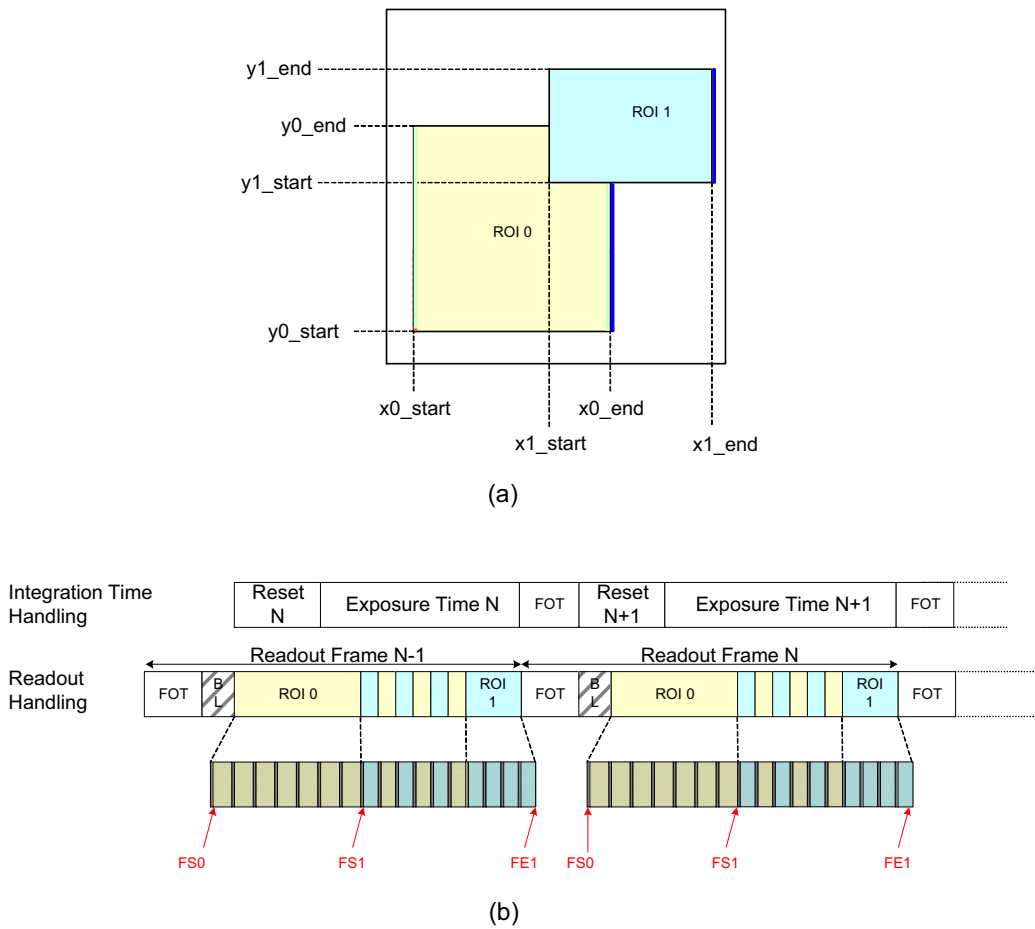

Figure 29. V1–SN/SE: Frame Sync Codes
The frame format is explained by example of the readout of two (overlapping) windows as shown in Figure 29 (a).
Figure 29 indicates that, after the FOT is completed, the sensor reads out a number of black lines for black calibration purposes. After these black lines, the windows are processed. First a number of lines which only includes information of ‘ROI 0’ are sent out, starting at position y0\_start. When the line at position y1\_start is reached, a number of lines containing data of ‘ROI 0’ and ‘ROI 1’ are sent out, until the line position of y0\_end is reached. From there on, only data of ‘ROI 1’ appears on the data output channels until line position y1\_end is reached.
**NOTE:** In Figure 29, only Frame Start and Frame End Sync words are indicated in (b). CRC codes are also omitted from the figure.